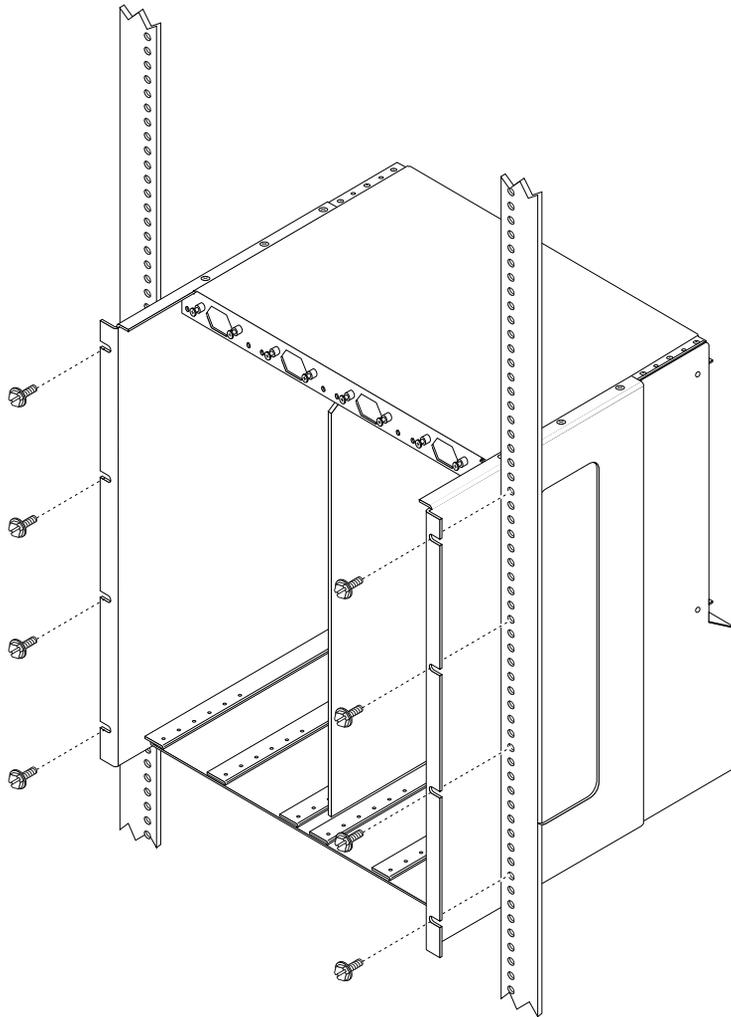

FIGURE 3-9 Mounting the Netra CT Chassis in a Rack
1. Raise the Netra CT chassis to the appropriate height in the rack and align the mounting holes on the sides of the chassis with the mounting holes in the rack rails (FIGURE 3-9).